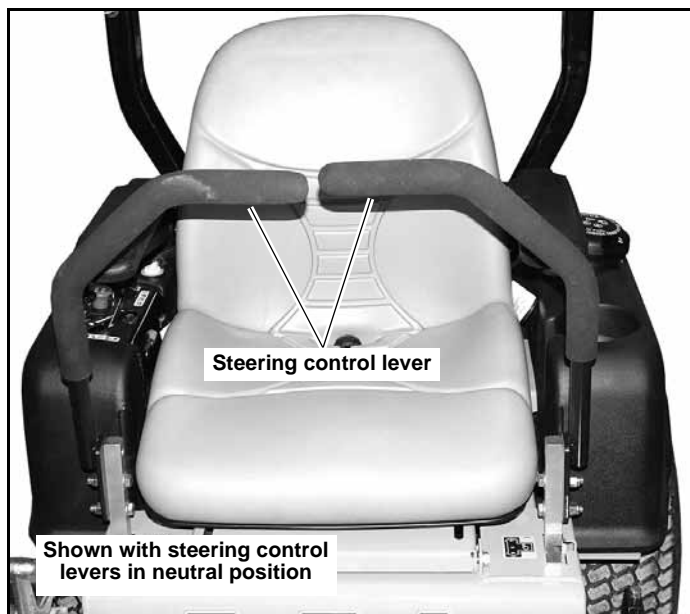
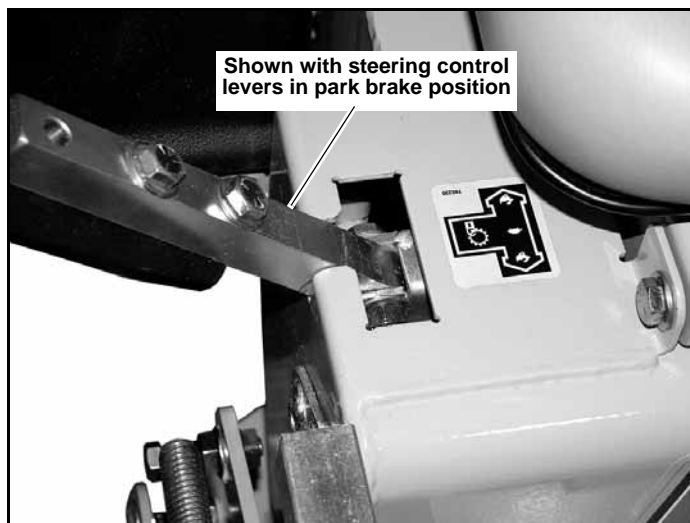

Figure 3-2
Figure 3-3
- A. Steering control levers (Figure 3-2 & Figure 3-3)** — these levers control the mower’s speed, direction, stopping, and park brake. These levers are used to steer, accelerate, decelerate and change direction. When the steering control levers are in the park brake position the mower will not move when the engine is on and the drive pumps are operating.